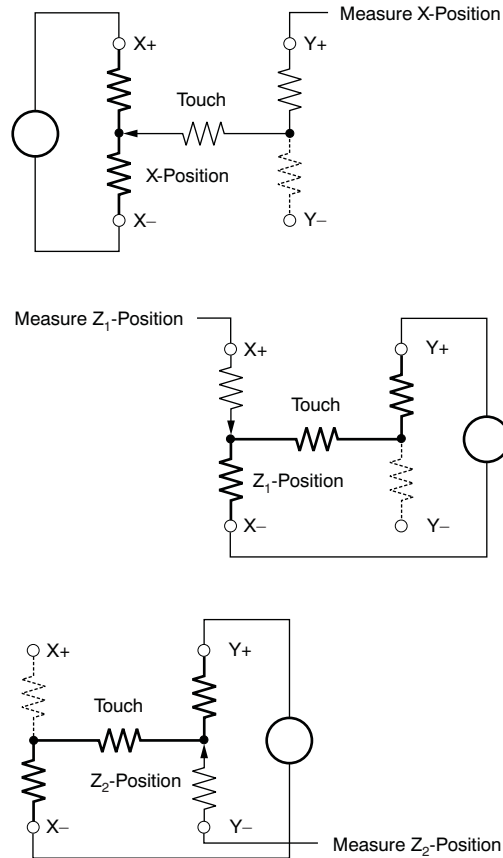

Figure 21. Pressure Measurement
Measuring touch pressure (Z) can also be done with the TSC2017. To determine pen or finger touch, the pressure of the *touch* must be determined. Generally, it is not necessary to have very high performance for this test; therefore, 8-bit resolution mode may be sufficient (however, data sheet calculations are shown using the 12-bit resolution mode). There are several different ways of performing this measurement. The TSC2017 supports two methods. The first method requires knowing the X-plate resistance, the measurement of the X-position, and two additional cross panel measurements (Z_2 and Z_1) of the touch screen (see Figure 21). Equation 1 calculates the touch resistance: